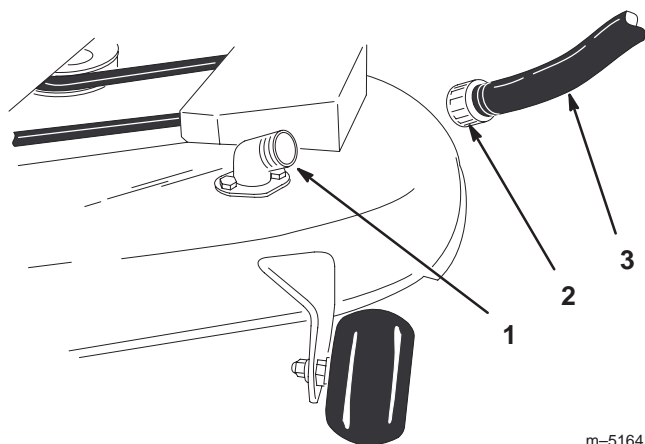

Figure 47
2. Attach the hose coupling to the end of the mower washout fitting, and turn the water on high (Fig. 47).